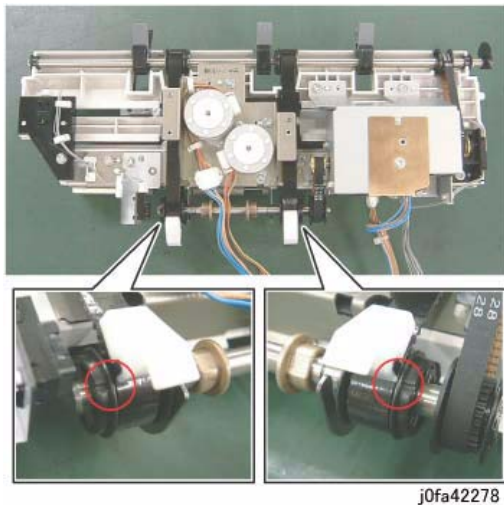

Figure 7 Installing the Eject Belt (j0fa42278)
2. Install and align the Eject Belt with marks on the Pulleys. (Figure 7)